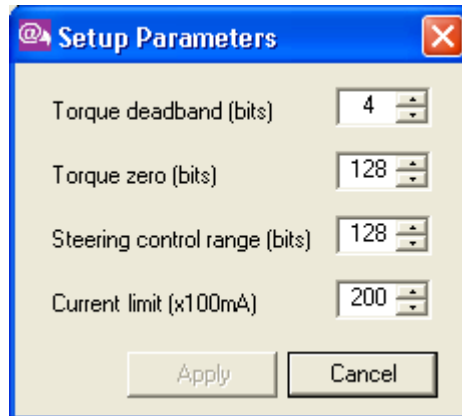

Figure 5 - Setup Parameters Dialog
1. Select the **Setup** ➔ **Parameters** option from the main menu. The Setup Parameters dialog (Figure 5) is displayed.